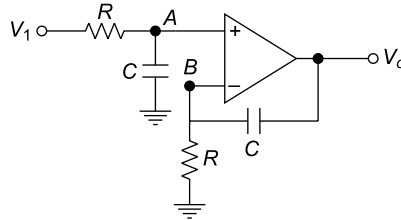

Fig. 5.36 Circuit of Ex. 5.16
5.16 Prove that the operational amplifier circuit as shown in Fig. 5.36 is an integrator. Assume operational amplifier is an ideal one.
Hence, it is proved that the operational amplifier circuit as shown in Fig. 5.36 is an integrator.